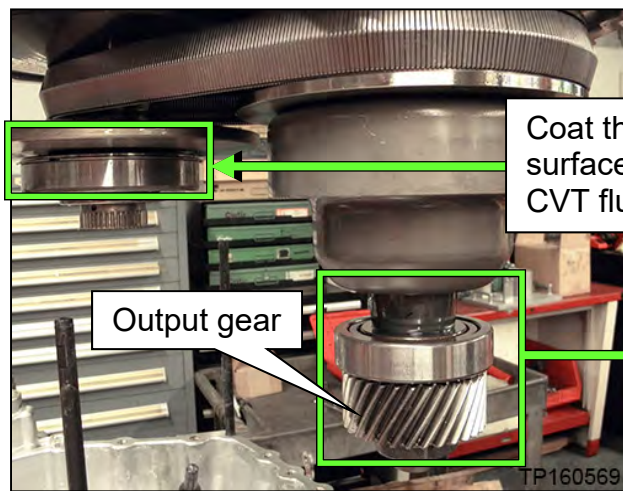
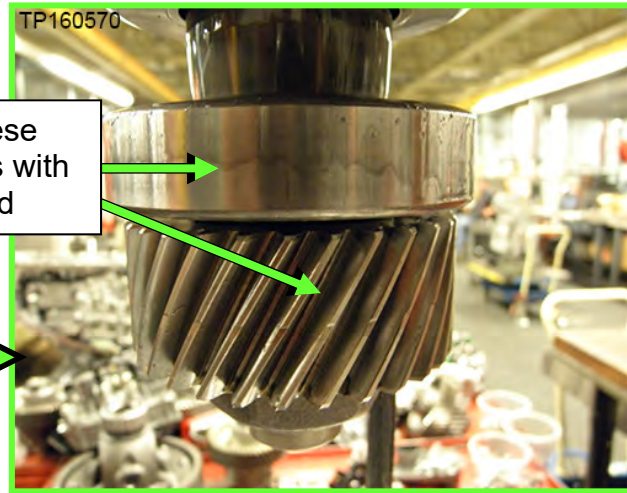

Figure 91
Figure 92
72. Coat the primary pulley bearing, secondary pulley gear teeth and the secondary bearing with CVT fluid prior to installation (Figure 91 and Figure 92).